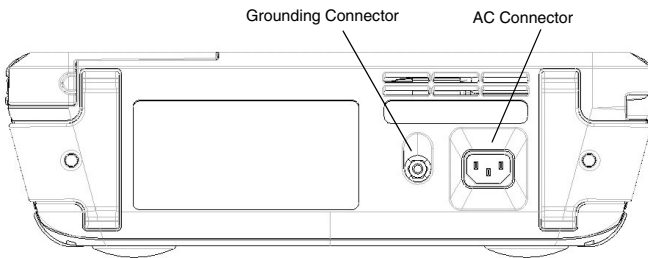

Figure 3. Rear panel of the PRM.
1. Connect the power cord into the alternating current (AC) connector on the rear panel (Figure 3).